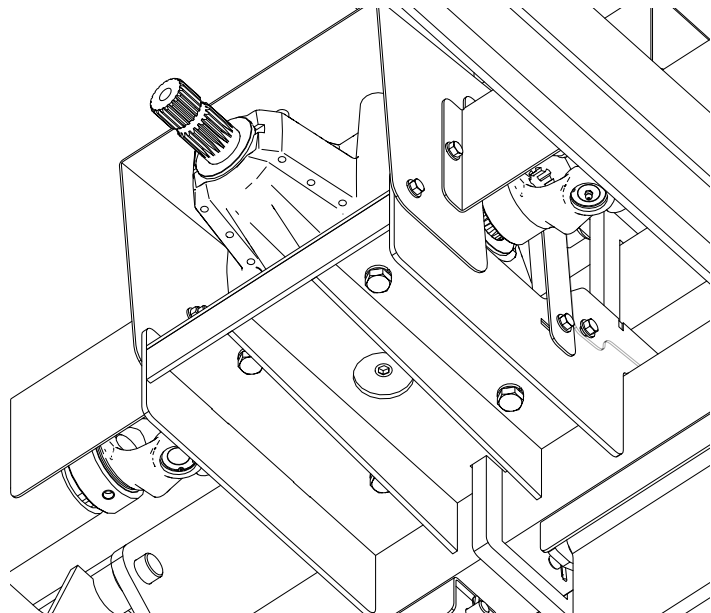

Figure 34. Drain Plug (underside of unit)
5. Place a pan under drain plug. Remove drain plug and dip stick plug (see Figure 34).